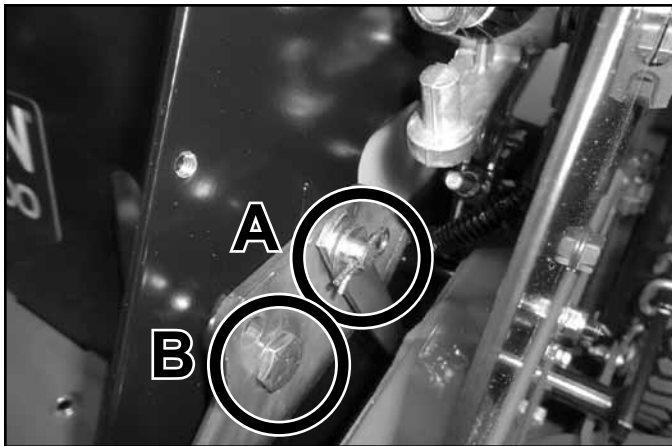

Fig. 042
3. Remove the parking brake pin and washer (A). Remove the parking brake link from the handle stud.
4. Remove fastener (B) that secures the parking brake handle to the control box assembly. Remove the handle from the unit (Fig. 042).